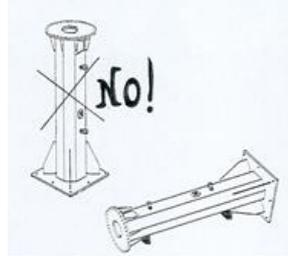

fig. 16
- **All of the parts or components must be placed or fixed stably in all phases or the movement, transport and storage phases and must not be flipped over or placed vertically or on their sides (fig. 16).**